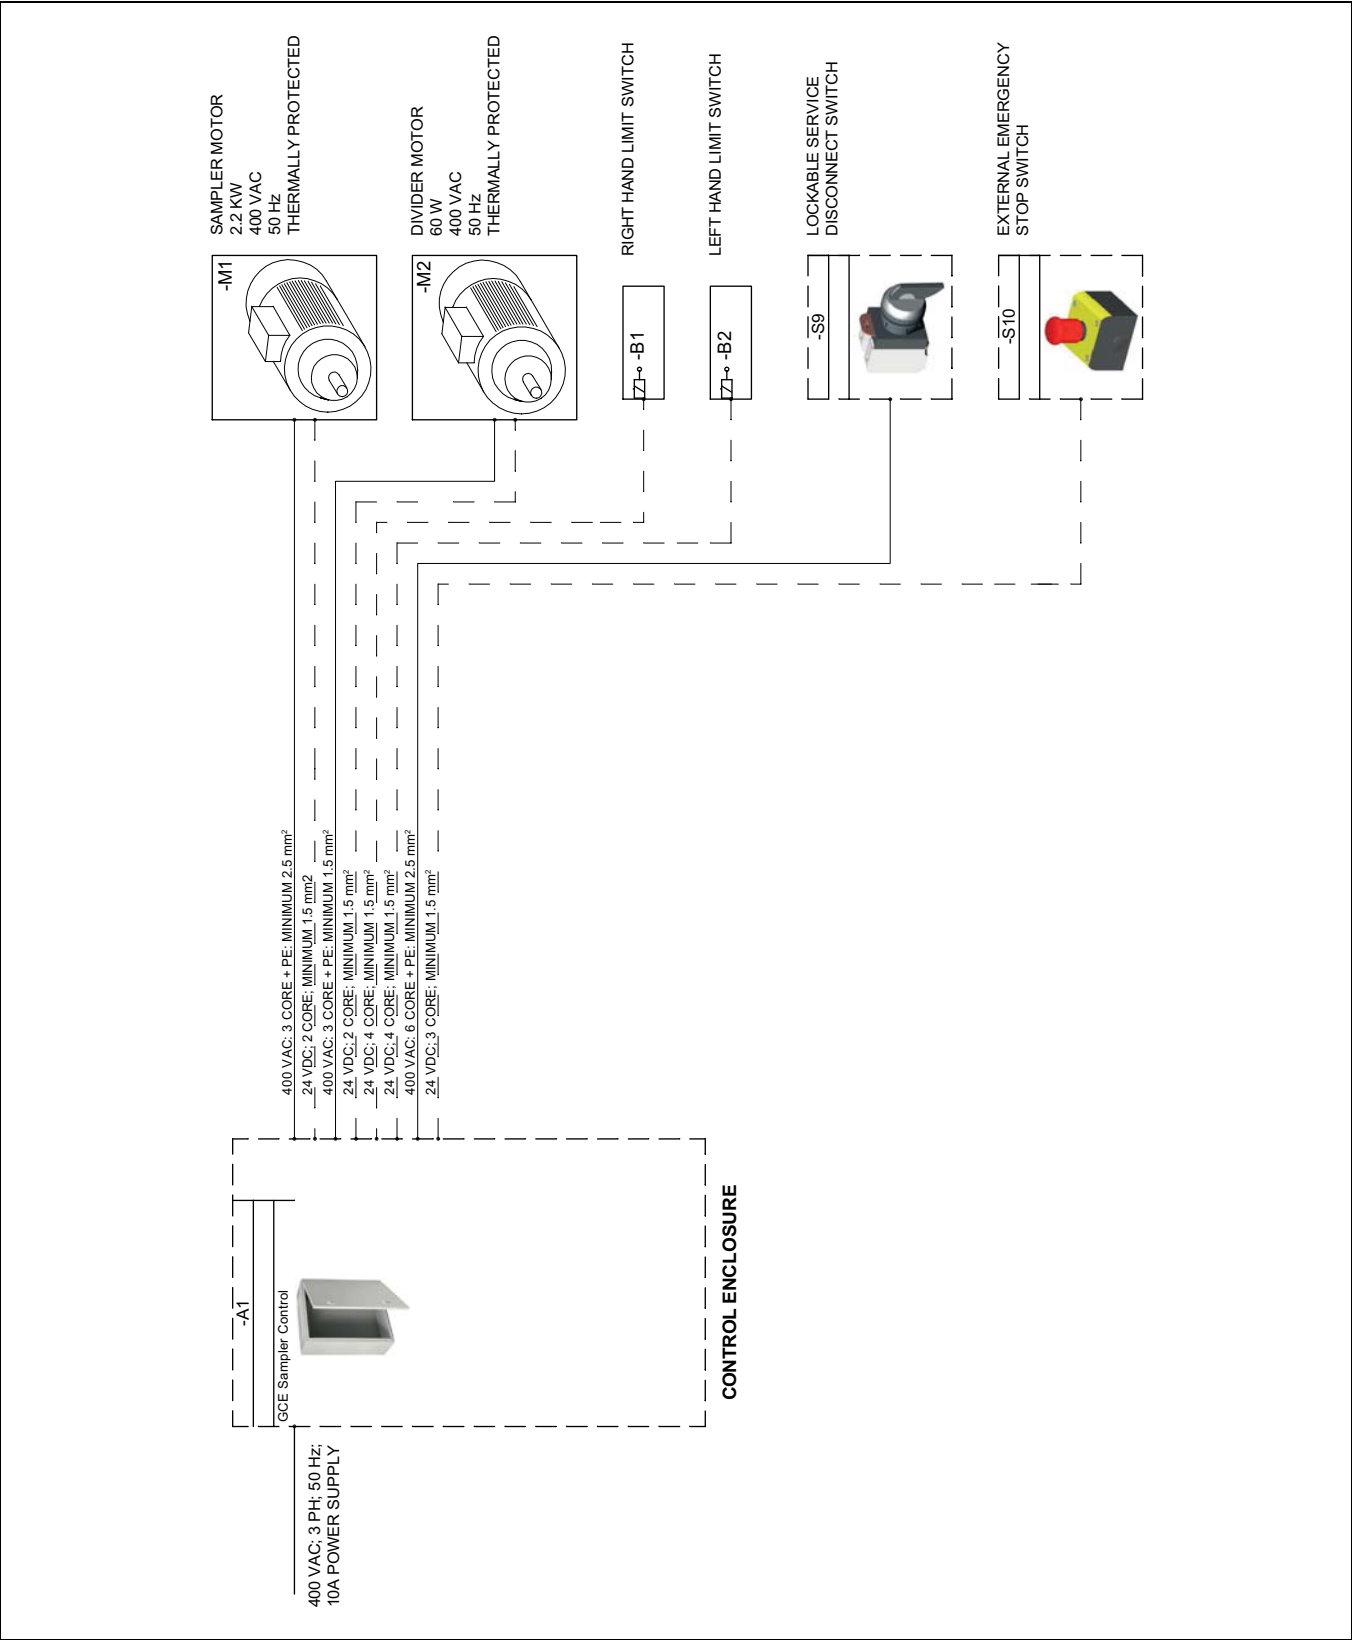

Figure 7A Electrical layout
2. Run suitable type cables to the components on the Sampler and Divider as indicated in the Figure 7A on Page 28.